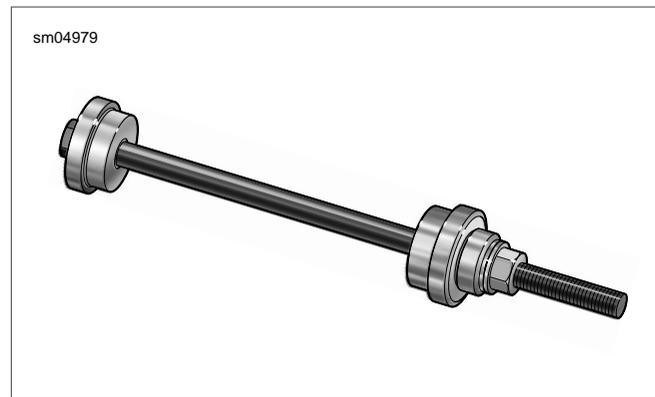

Figure 2-70. Steering Head Bearing Cup Installer (Part No. HD-39302)
1. See Figure 2-70. Obtain STEERING HEAD BEARING CUP INSTALLER (Part No. HD-39302). Proceed as follows: